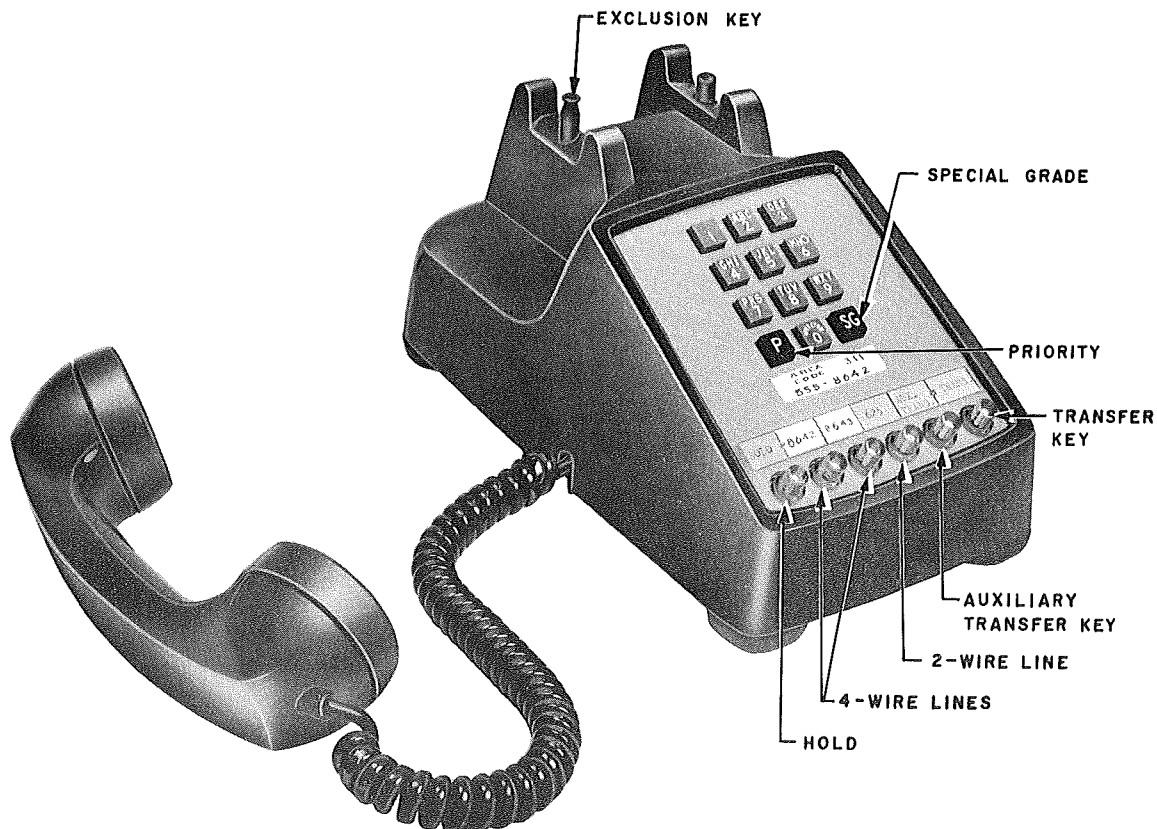

Fig. 1 - 568HT Telephone Set With Typical Arrangement of Pickup and Signaling Keys
2.03 The 568HT telephone set is equipped with a 22A (pushbutton-type) dial. Buttons 1 through 0 are for pulsing central office numbers. Two additional buttons, colored red, are designated P (Priority) and SG (Special Grade). On stations privileged to do so, priority or a special grade facility may be obtained on 4-wire lines by momentarily operating the P and/or SG buttons before the number is dialed. Fig. 1 is a 568HT telephone set with a typical arrangement of pickup and signaling keys.